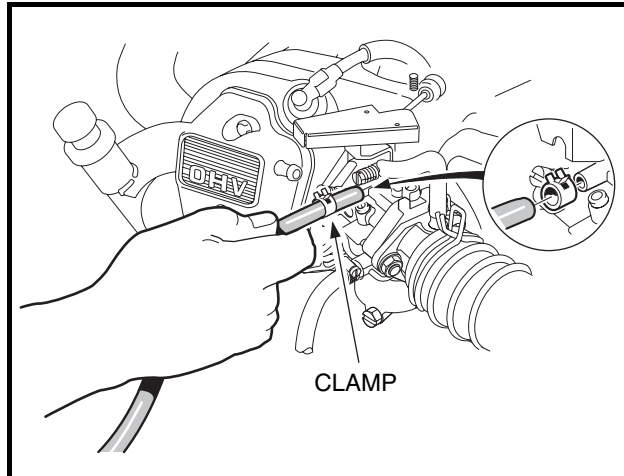

Figure 16-9 Carburetor Vent Tube
- 4.1. Disconnect the carburetor vent tube from the carburetor (**Figure 16-9, Page 16-7**).